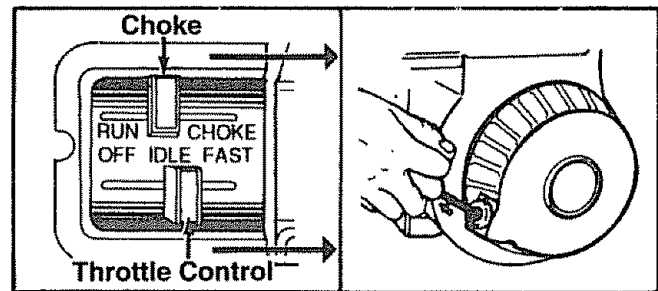

FIGURE 14.
- Place the throttle control lever in FAST position. See figure 14.
- Grasp starter handle (see figure 14) and pull rope out slowly until engine reaches start of compression cycle (rope will pull slightly harder at this point). Let the rope rewind slowly.
NOTE: If engine does not fire after three attempts, move choke lever halfway between CHOKE and RUN position and try again. See figure 14.
Your four-cycle engine will normally consume some oil—therefore, check engine oil level regularly approximately every five hours of operation and before each usage. Stop engine and wait several minutes before checking oil level. With engine level, the oil must be to FULL mark on dipstick (refer to figure 14). Change engine oil after the first five hours of operation, and every twenty-five hours thereafter.